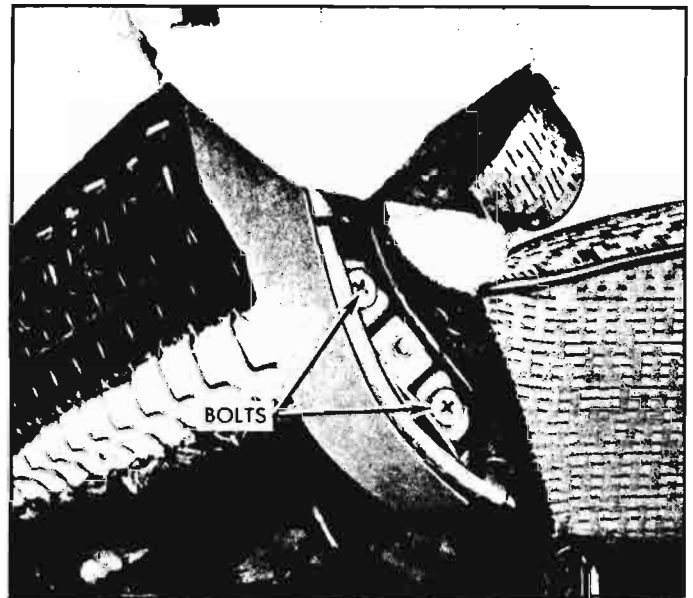

Fig. 10-73—Front Seat Back Attachment
4. At each end of seat remove hog rings securing lower edge of seat back trim from seat bottom frame. Then raise seat back trim to expose bolts securing seat back reinforcement to seat bottom frame (fig. 10-73).
6. Place seat assembly in upright position. Then with a helper holding seat back assembly, remove seat back reinforcement-to-seat bottom frame attaching bolts on each side of seat and remove seat back assembly (fig. 10-73).